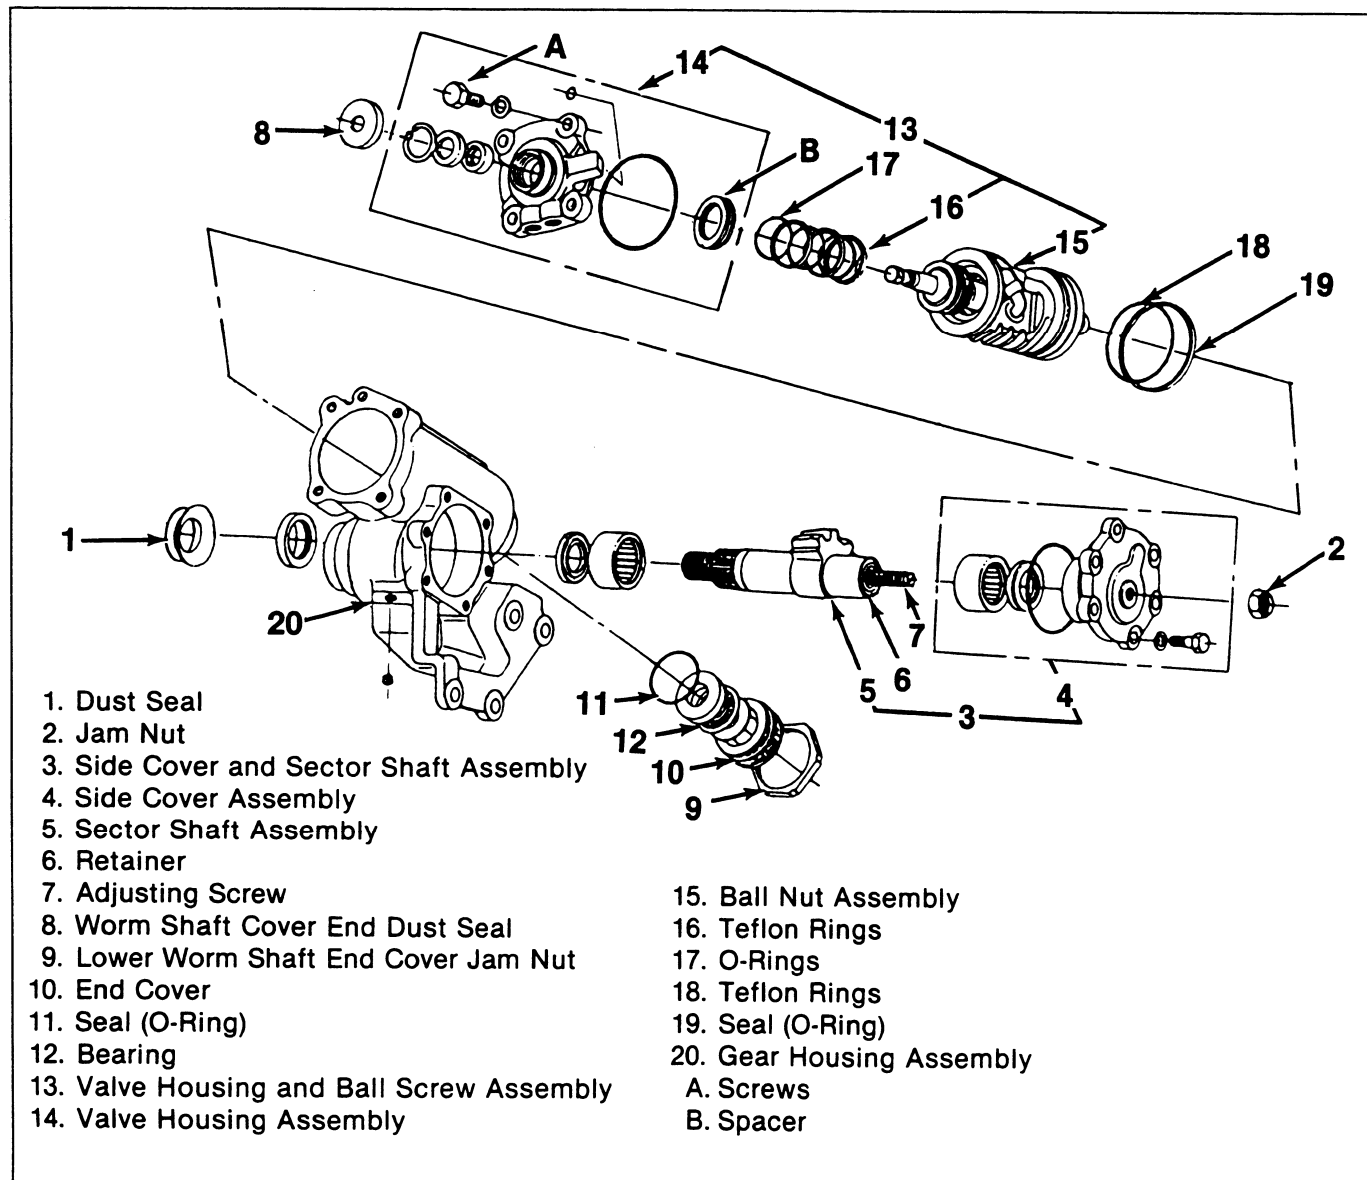

Figure 5. Steering Gear Major Components
Disassemble (Figures 5 through 12)
- Worm shaft cover end dust seal (8) (figure 5).
- Lower worm shaft end cover jam nut (9) (figure 5).
- End cover (10) with a spanner wrench (figure 5).
- Seal (O-ring) (11) (figure 5).
- Bearing (12) (figure 5).
- Screws (A) retaining valve housing and ball
screw assembly (13) to gear housing assembly (20) (figure 5).
13. Valve housing and ball screw assembly (13) (figure 5).
Measure (Figures 5, 13, 14 and 15)
- Ball nut assembly (15) to gear housing assembly (20) bore clearance (figure 5). Measure the ball nut piston diameter, using a micrometer. Measure the housing bore inside diameter, using an inside micrometer. Subtract the ball nut piston diameter from the housing bore inside diameter to obtain the clearance. The production clearance is 0.1 mm (0.004 in). Replace the piston and/or housing if clearance exceeds specification.
**Assemble (Figure 5)**
1. New teflon ring (18) to ball nut assembly (15).
2. New seal (O-ring) (19) to ball nut assembly (15).
3. New teflon rings (16) and new seals (O-rings) (17) to ball nut assembly (15).
4. Keep ball nut assembly (15) clean until ready to assemble into gear housing assembly (20).
**Inspect (Figure 5)**
3. Adjusting screw (7) for thread damage. The adjusting screw must turn smoothly in the sector shaft assembly(5), and not be excessively loose.